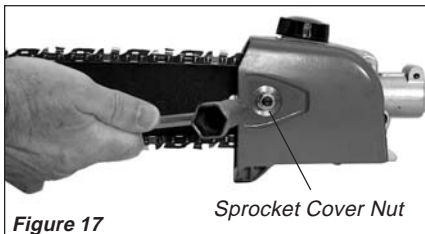

Figure 17
2. Loosen the sprocket cover nut with a plug wrench (Figure 17).